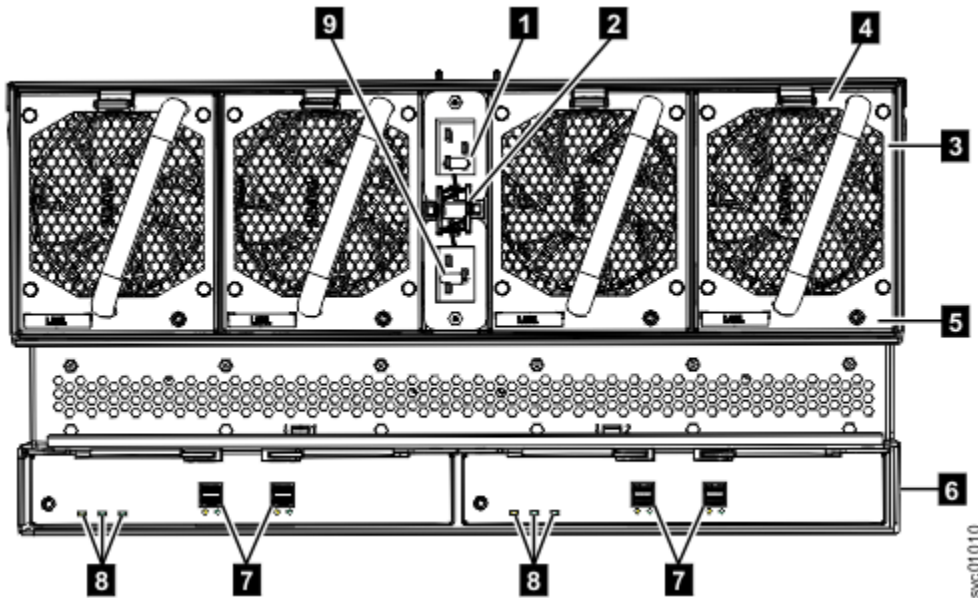
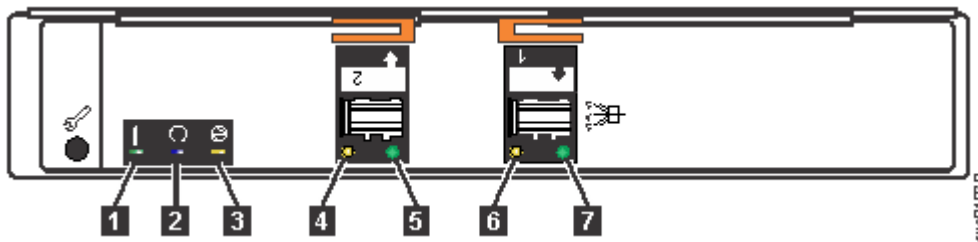

Figure 134. LEDs on the back of the expansion enclosure
Figure 135. LEDs on the back of the expansion canister
Table 16 on page 116 explains the function and status that is indicated by each of the LEDs. The power cords for each PSU are accessible from the rear of the expansion enclosure (1), as shown in Figure 134 on page 119.
Figure 134 on page 119 shows the rear view of a 2076-92F expansion enclosure. LEDs on the rear of the enclosure provide information about each fan module, each expansion canister, and SAS links.
The expansion enclosure has four fans. Each fan has one LED; for example, Figure 134 on page 119 shows the location of the LED (5) for fan number four. When a fan is operating normally, the LED is not lit. If a fault is detected, the amber LED is lit.
As Figure 134 on page 119 also shows, the expansion enclosure contains two expansion canisters. Each expansion canister contains its own set of LEDs, as shown in Figure 135 on page 119. The LEDs provide status information about the expansion canister itself and the SAS connections.